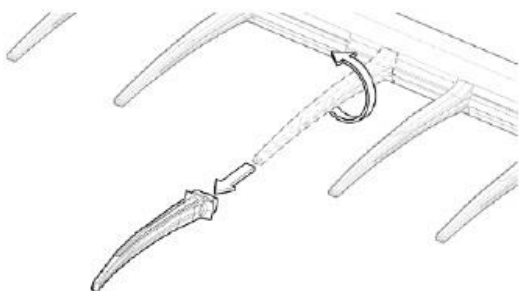

Figure 192
2. Once the spacer is removed the finger can be turned 90 degrees by a wrench and pulled out of the bat. Figure 192